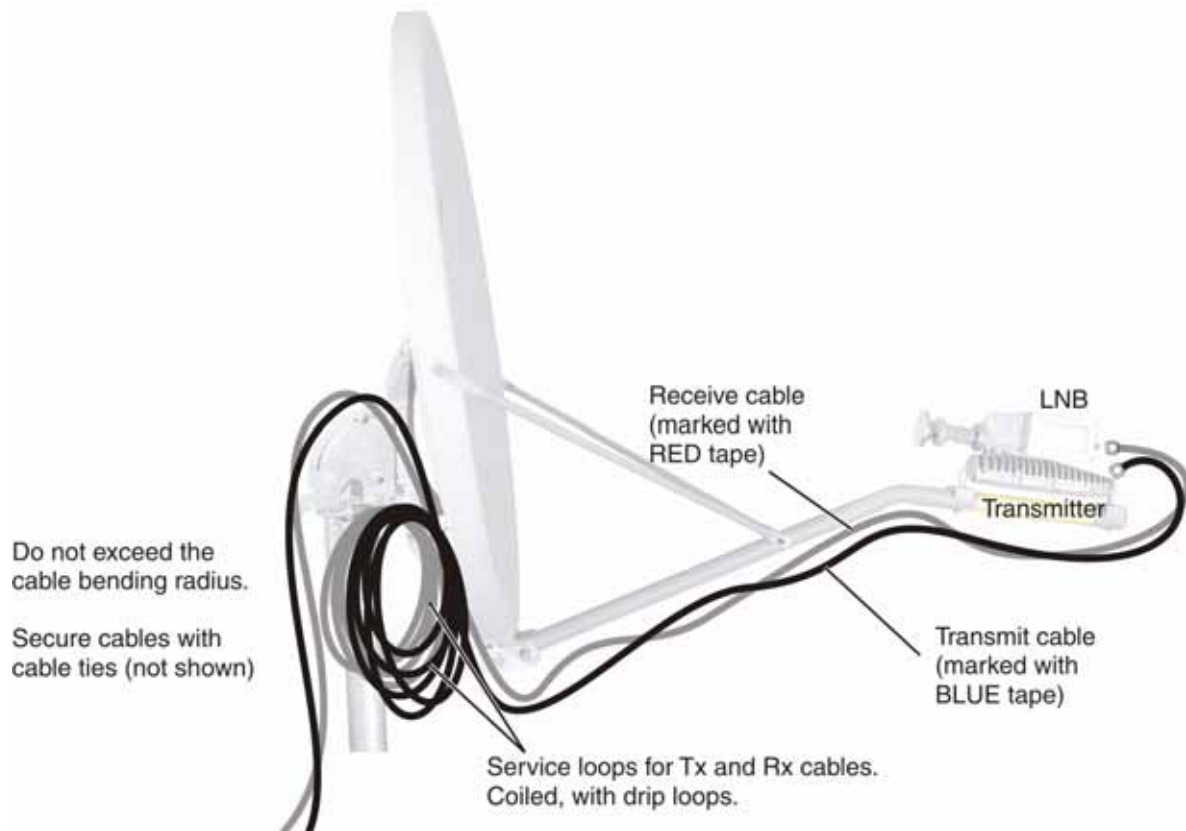

Figure 29: Transmit and receive cable configurations
1. Route the Tx cable (marked with blue electrical tape) over the Az/EI mount assembly, down behind the reflector, and along the feed support arm to the rear of the transmitter, in a configuration similar to that shown in Figure 29.
4. Route the Rx cable (marked with red electrical tape) over the Az/El mount assembly, down behind the reflector, and along the feed support arm to the LNB, in a configuration similar to that shown in Figure 29 above.